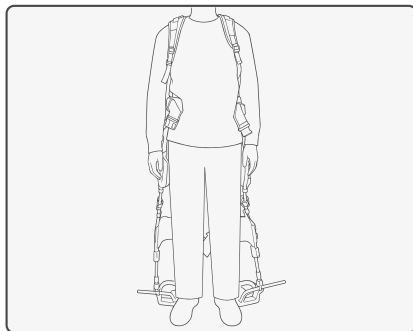

Figure 13 Exoskeleton Shoulder Strap Wearing
1. Wearing shoulder strap: Wear the exoskeleton shoulder straps on both shoulders using a backpack-style wearing method, as shown in Figure 13.